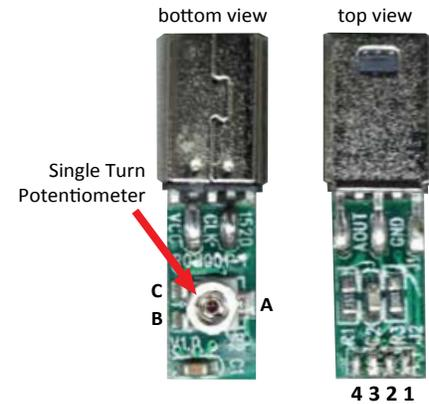

Figure 1: CIB board assembly, ENA-10004-AS
1 See Figure 1 for pin numbering assignment of the CIB board.
The resistance value between terminals A-C in the CIB board (see Figure 1 above) is a function of the length of the electrical cable assembly. For the standard 2m long unshielded EC4 type cable (see in the “part number and configuration ordering” section for details on the different available electrical cable configurations) this value is typically set at:
**ENA-10001-PP:** Is the plastic connector shell for the mini-B USB electrical connector. If the connector shell needs to be opened to gain access to the potentiometer, shown in Figure 1, the tabs that hold it together may get broken. **That is why an extra ENA-10001-PP is shipped with every minnieScope™ -XS order.** This way if you need to modify the length of the electrical cable or need to change the resistance between terminals A-C in the CIB board (see Figure 1), you can use the extra connector shell to cover back up the CIB board.